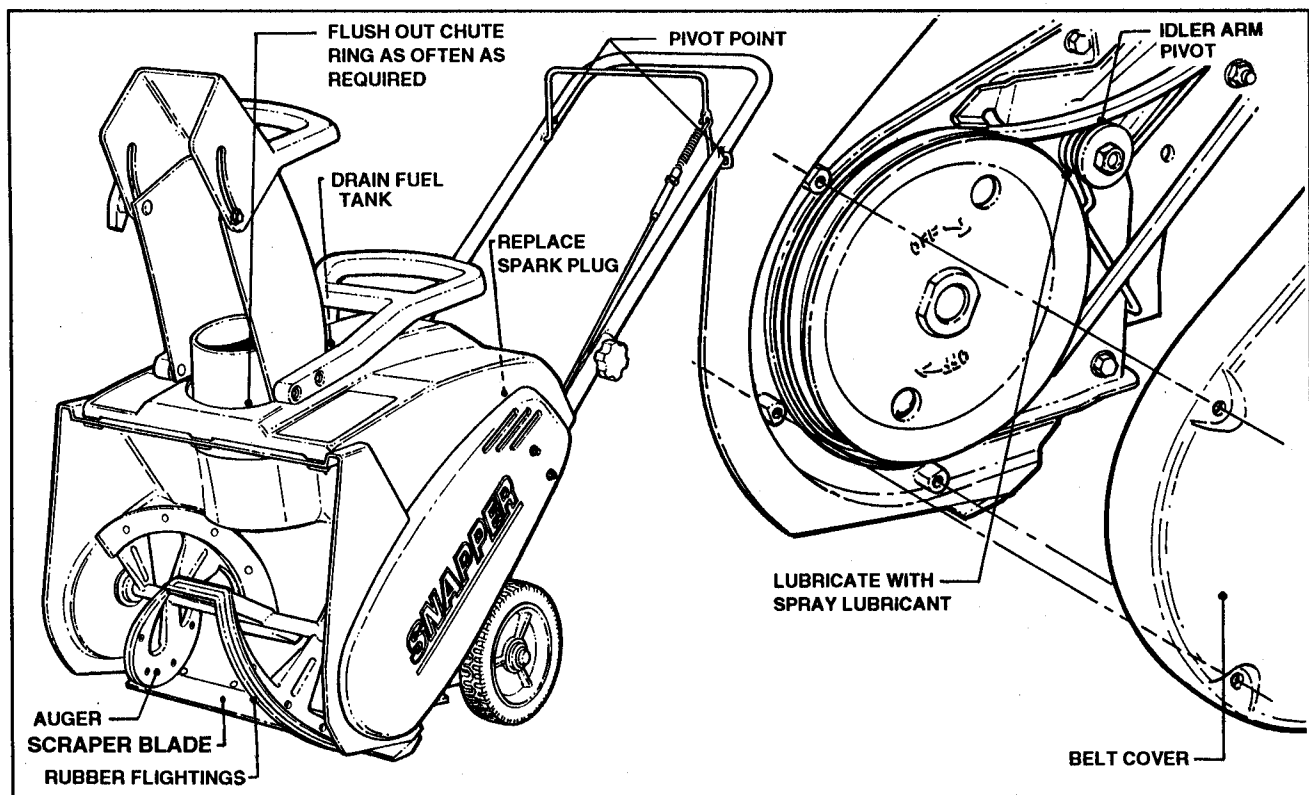

FIGURE 5.1
- (1) Remove the Belt Guard and lubricate the Idler Arm Pivot with WD-40™. (See Figure 5.1).
- (2) Also, lubricate the Clutch/Brake Arm Pivot.
- (3) Lubricate the Auger/Clutch Control Handle Pivots with a light coat of SAE 30 Engine Oil.